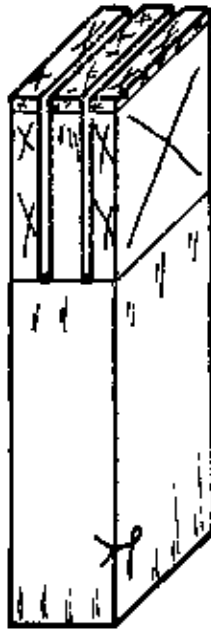

Fig. 9
– Rip the sides of the tenon, sawing on the waste side of the lines (Fig. 9).